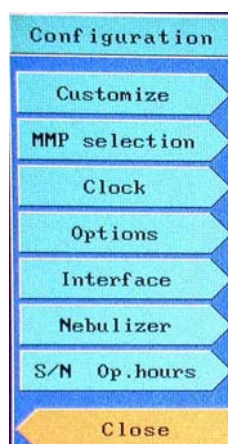

Figure B-8. The Configuration menu
2. Activate the **Configuration** button on the setup screen. The **Configuration** menu opens. (Figure B-8.)